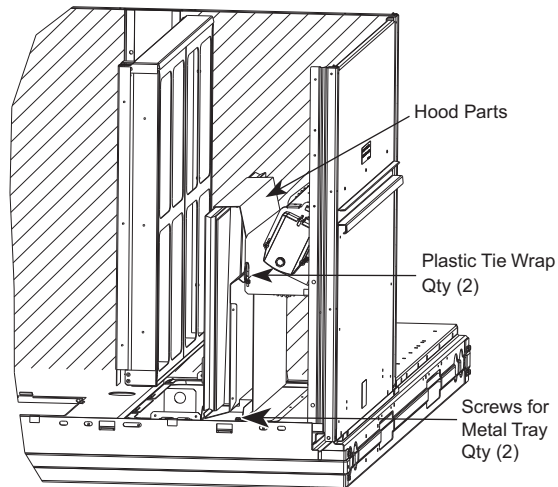

Fig. 11 — Two Position Damper Hood Package Location
3. Locate the (2) screws holding the metal tray to the basepan and remove. In order to remove the screws, it may be necessary to remove the panel underneath the two-position damper. Remove the two screws. Locate and cut the (2) plastic tie-wraps securing the assembly to the damper. (See Fig. 11.) Be careful to not damage any wiring or cut tie-wraps securing any wiring.